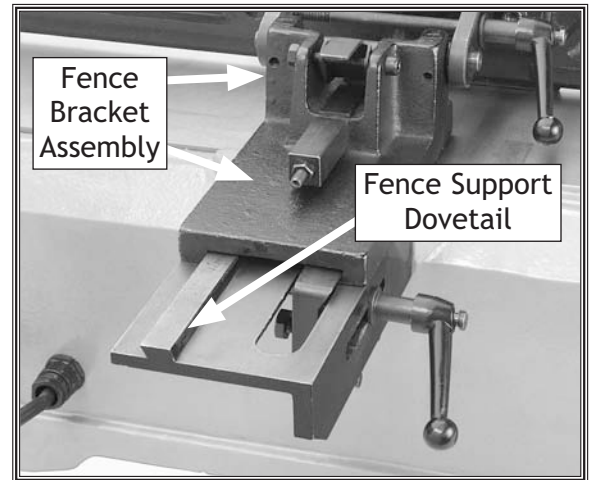

Figure 16. Sliding the fence bracket onto the fence support dovetails.
- Slide the fence bracket assembly over and onto the dovetail of the support and locking plate, as shown in Figure 16.